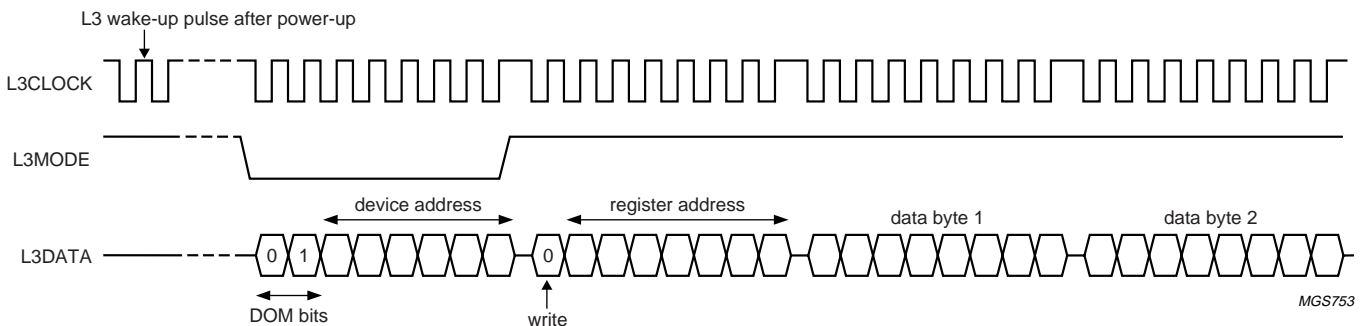

Fig.5 Data write mode (for L3 version 2).
The address mode is used to select a device for a subsequent data transfer. The address mode is characterized by L3MODE being LOW and a burst of 8 pulses on L3CLOCK, accompanied by 8 bits (see Fig.5). The data transfer mode is characterized by L3MODE being HIGH and is used to transfer one or more bytes representing a register address, instruction or data.
Remark: when the device is powered up, at least one L3CLOCK pulse must be given to the L3 interface to wake-up the interface before starting sending to the device (see Fig.5). This is only needed once after the device is powered up.
1. Addressing for write data: bit 0 is logic 0 indicating a write action to the destination register, followed by bits 1 to 7 indicating the register address (see Fig.5).
The data write mode is explained in the signal diagram of Fig.5. For writing data to a device, four bytes must be sent (see Table 6):